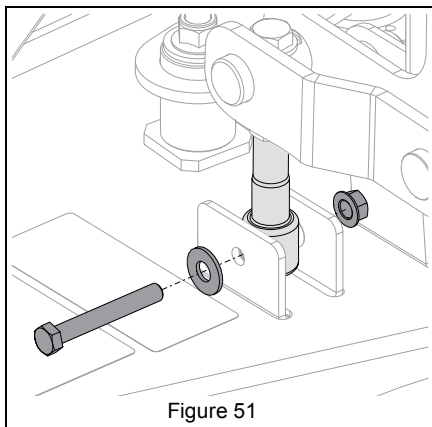

Figure 51
7. Remove hardware retaining deck lift links to deck lift brackets. See Figure 51.